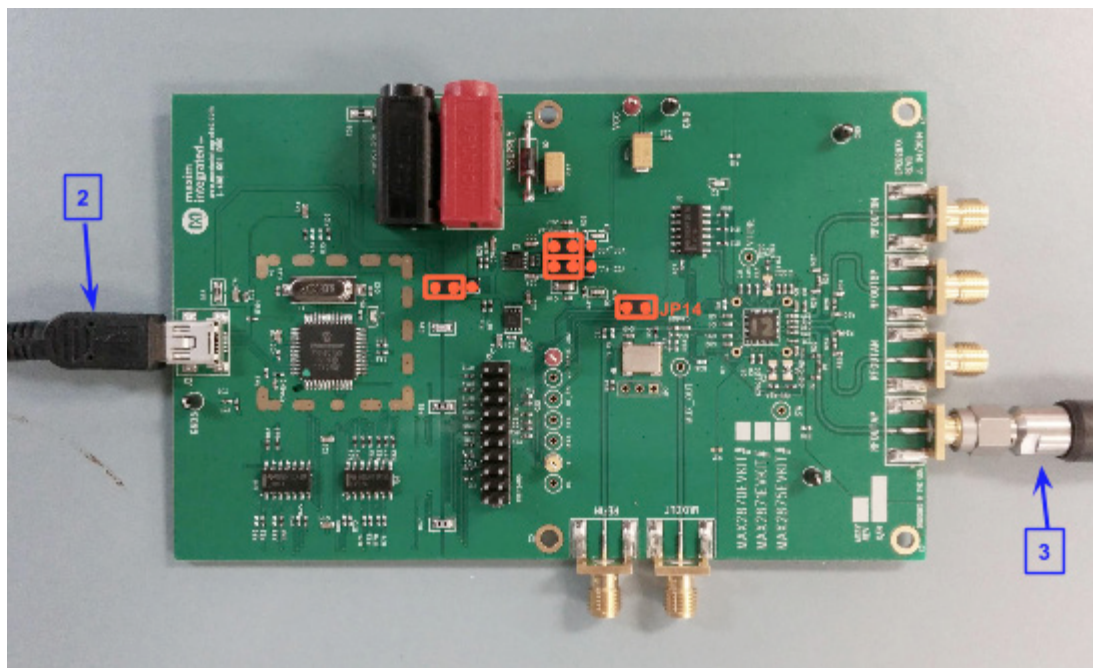

Figure 1. MAX2870/MAX2871 EV Kit Hardware Connection
- 1) Verify that all jumpers are in their default positions, as shown in Figure 1.